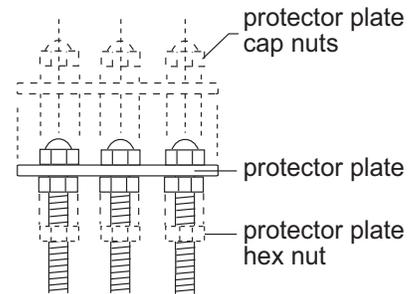

Fig. 13
- J.** Remove cap nuts and withdraw the installation tool. Be careful not to damage cable. Snap cable grommet into top of sensor and replace protector plate and cap nuts. (Fig. 13)
- A. Remove the cap nuts, protector plate, protector plate hex nuts, and sensor cable grommet. (Fig. 13)